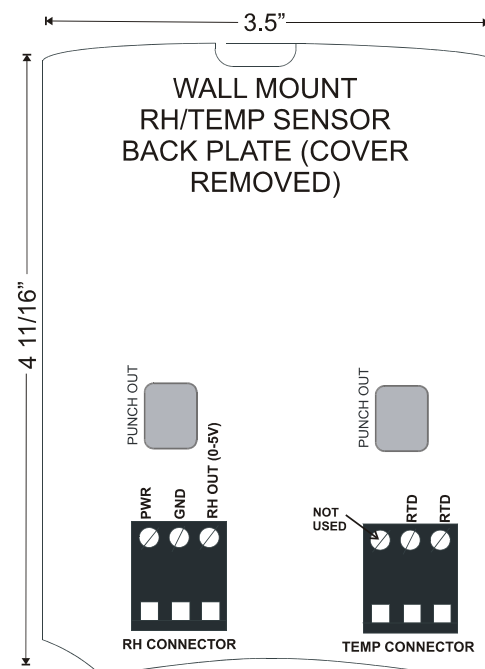

Figure 1 - RH/Temp Sensor Back Plate
2. Remove the punch outs above the wiring connectors so that the sensor cables can be run into the sensor enclosure (see *Figure 1*).